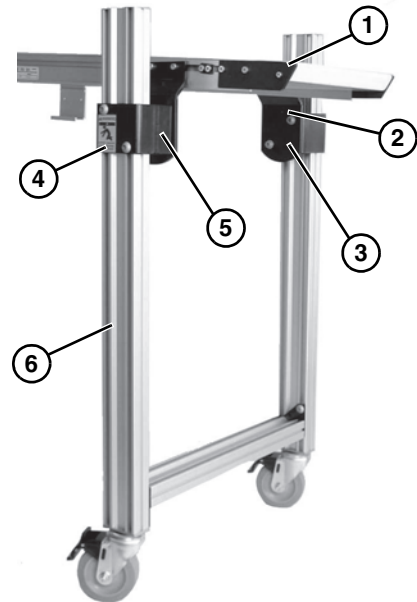

Figure 13
1. Support conveyor section (**Figure 13, item 1**).
2. Loosen two flange socket head screws (**Figure 13, item 2**) on each pivot bracket (**Figure 13, item 3**).
3. Loosen two button head screws (**Figure 13, item 4**) on each leg support (**Figure 13, item 5**).
4. Slide both leg supports (**Figure 13, item 5**) up or down on stand legs (**Figure 13, item 6**) to the required height. If necessary, adjust height of each leg support until conveyor is level from side to side.
Failure to secure screws (**Figure 13, item 4**) may cause conveyor sections to drop down causing severe injury.
TIGHTEN SCREWS (Figure 13, item 4) AFTER ADJUSTMENT.
5. Tighten four button head screws (**Figure 13, item 4**) to 17 ft-lb (22.5 N-m).
6. Tighten four flange socket head screws (**Figure 13, item 2**) to 24 ft-lb (33 N-m).